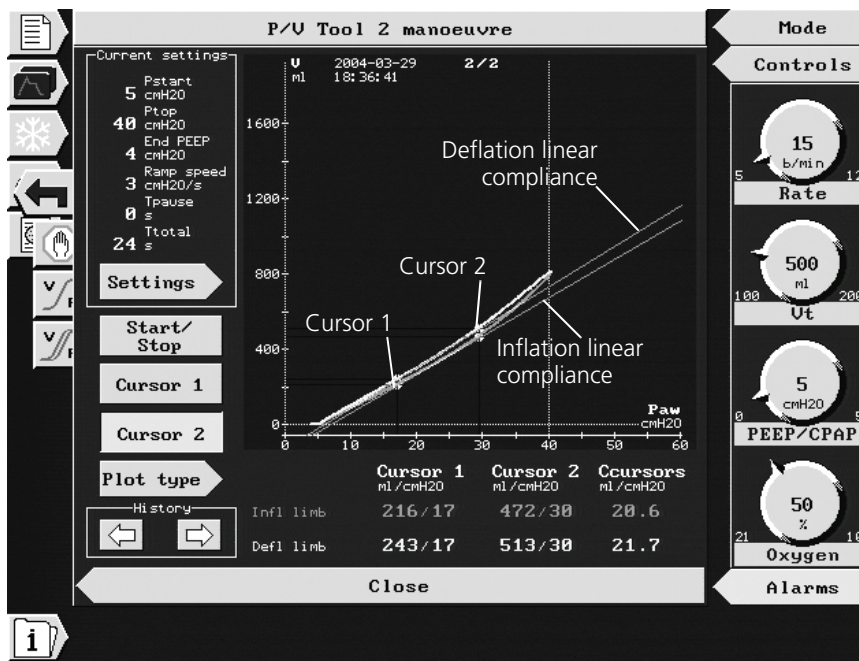

Figure 7-9. Using the cursor function: Creating the linear compliance curve
e	Plot type. Opens a menu so you change the type of curve displayed (Figure 7-9).
1. Select and activate **Cursor 1**; then turn the M-knob to select a point on the curve where you suspect the low inflection point is located (Figure 7-9). Deactivate **Cursor 1**.
1. From the **P/V Tool 2** window, select the **Plot type** arrow, then activate it. The **P/V Tool 2 Plot** menu is displayed (Figure 7-9).